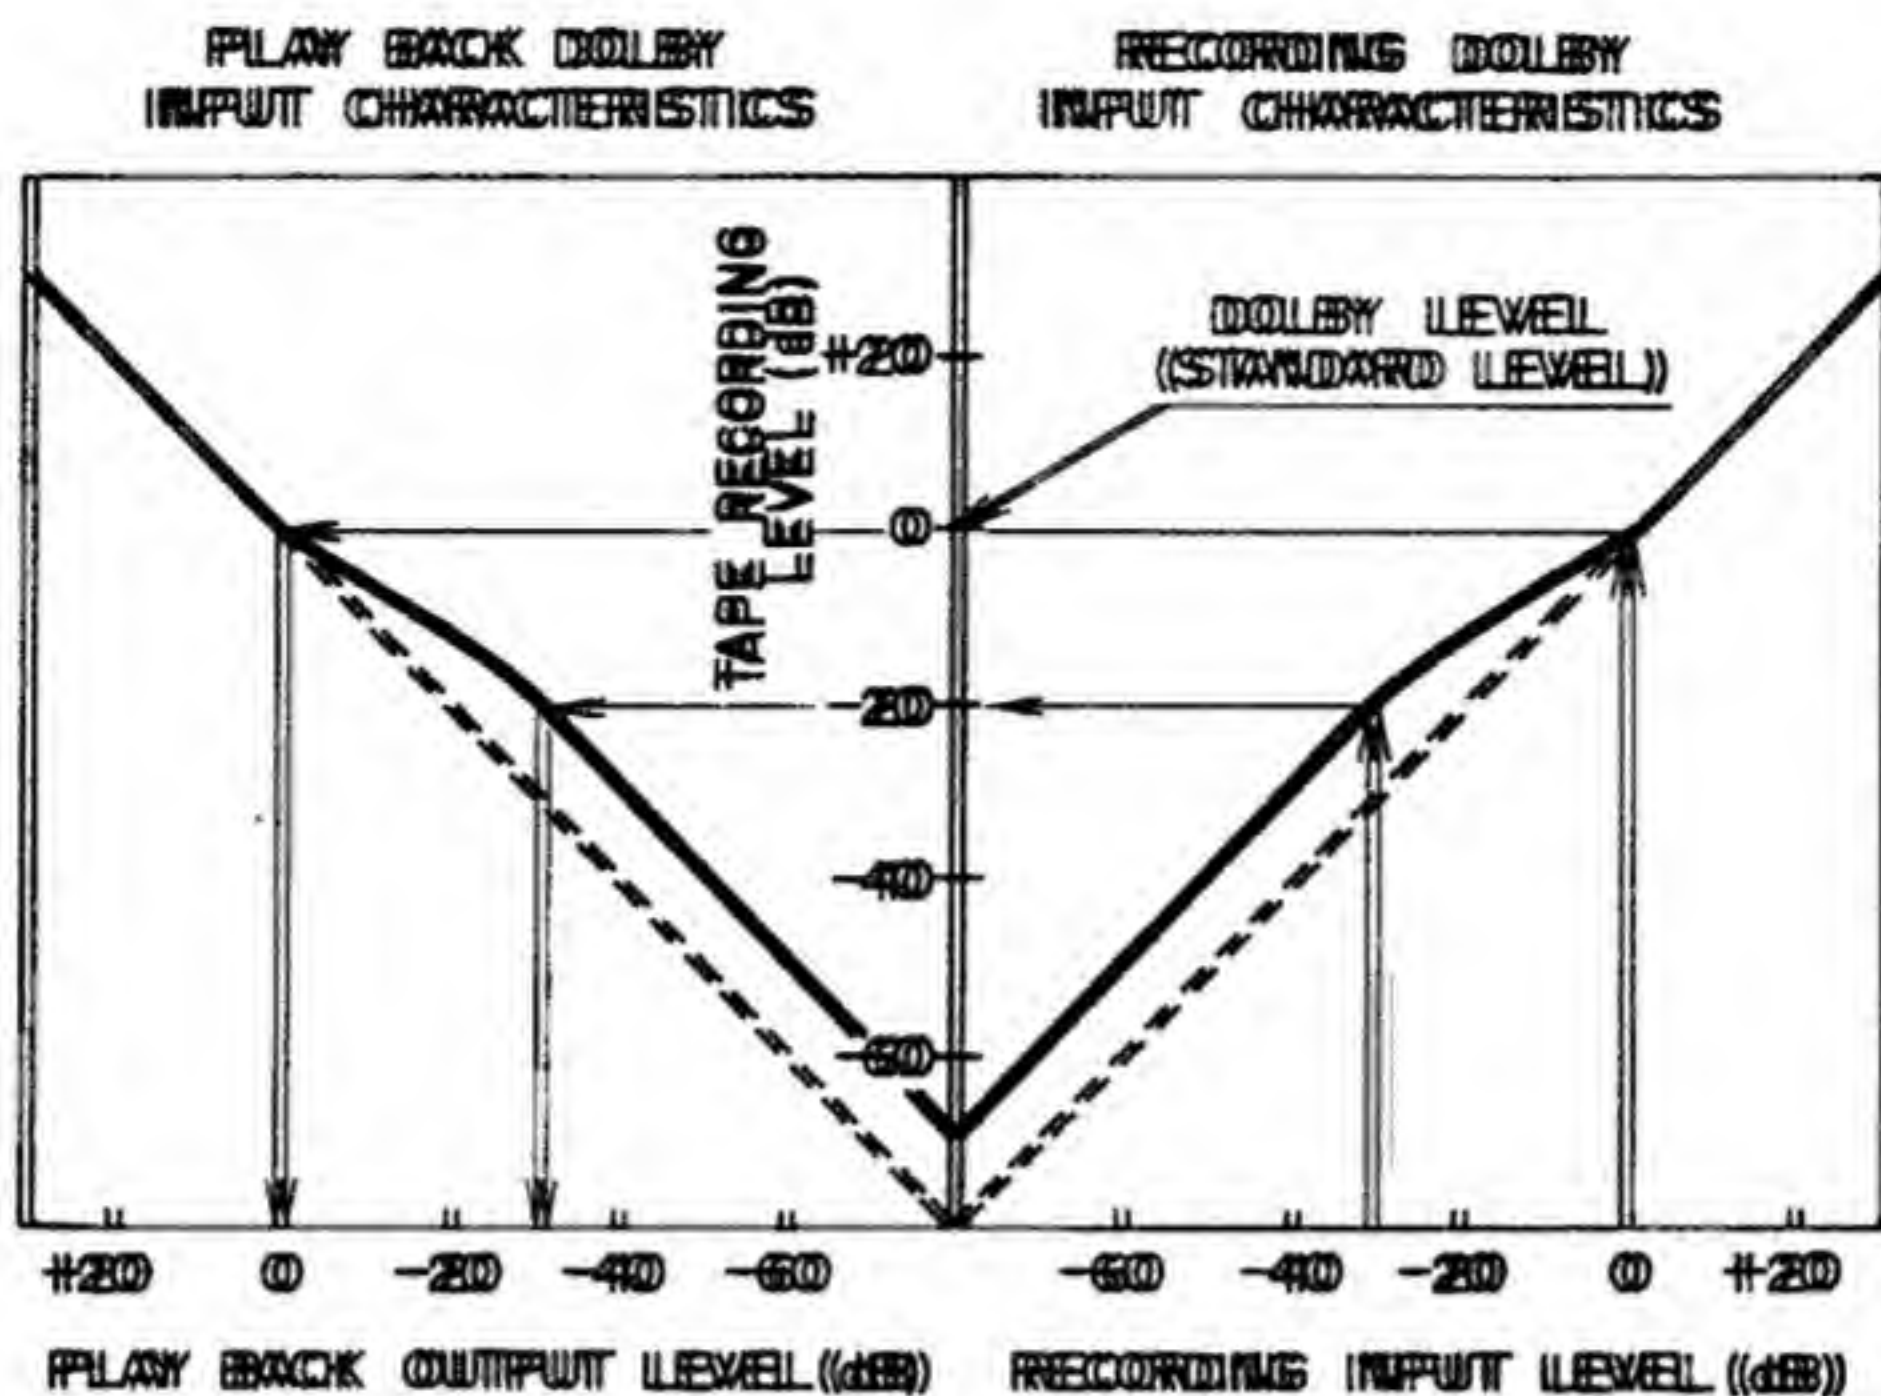

Fig. 31
- 5) As shown in Fig. 31, with the Playback Dolby NR Circuit signals recorded above the Dolby level are played back at a 1:1 ratio, and signals recorded at a level of under -20 dB on the tape (Dolbyized recorded signals) are reduced by 10 dB and played back. At this time, because the noise level is also reduced by 10 dB, the S/N ratio is improved. Therefore the difference in function of Recording Dolby Circuit and Playback Dolby Circuit is in the phase relation of the signal supplied to point (b).